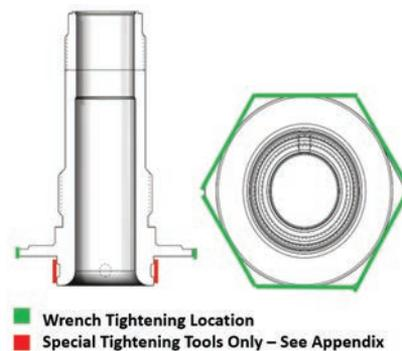

Figure 33: IS Nozzle Tightening Locations
- With a wrench/socket loosen the nozzle at the wrench location in Figure 33.
- Using of a three or four-jaw chuck welded vertically to a stand bolted to a concrete floor or the 1900/2900 Nozzle Assembly Tool with the correct 2900 Integral Sense Torquing Tool Insert per the drawing in Section XXIII, loosen the nozzle at the Special Tools Only location in Figure 33.